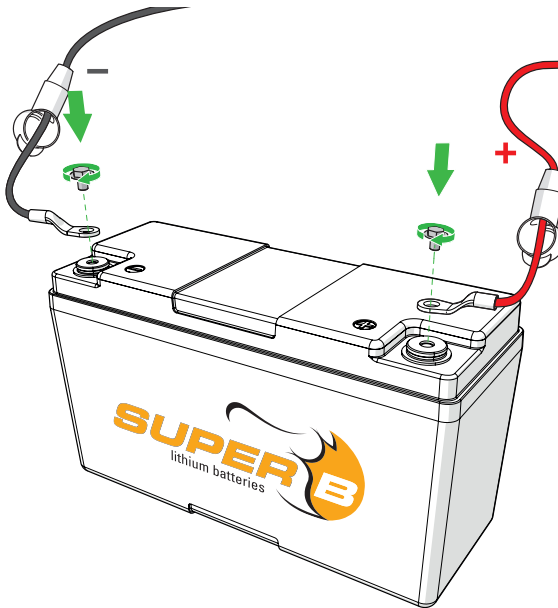

Figure 4. Connecting power cables to the Li-ion battery.
1. Connect the load or charger to the X2 (+) terminal of the Li-ion battery (Figure 4).
- 2. Connect the load or charger to the X1 (-) terminal of the Li-ion battery (Figure 4).